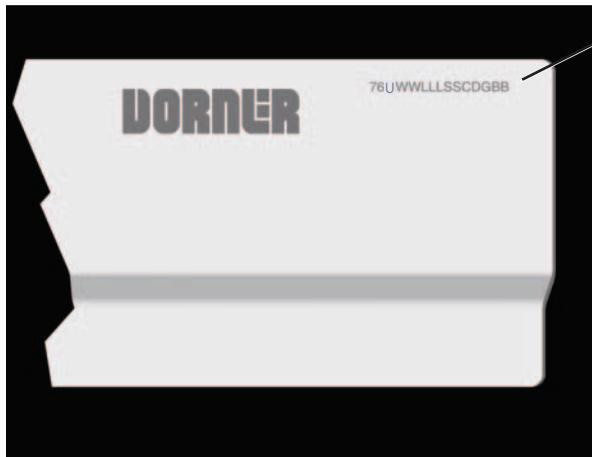

Figure 99
Refer to model number on the conveyor frame (**Figure 99**). From the model number determine the conveyor width (WW), length (LLL), drive/tail types (A) and belt type (BB). Use data to configure belt part number as indicated below.